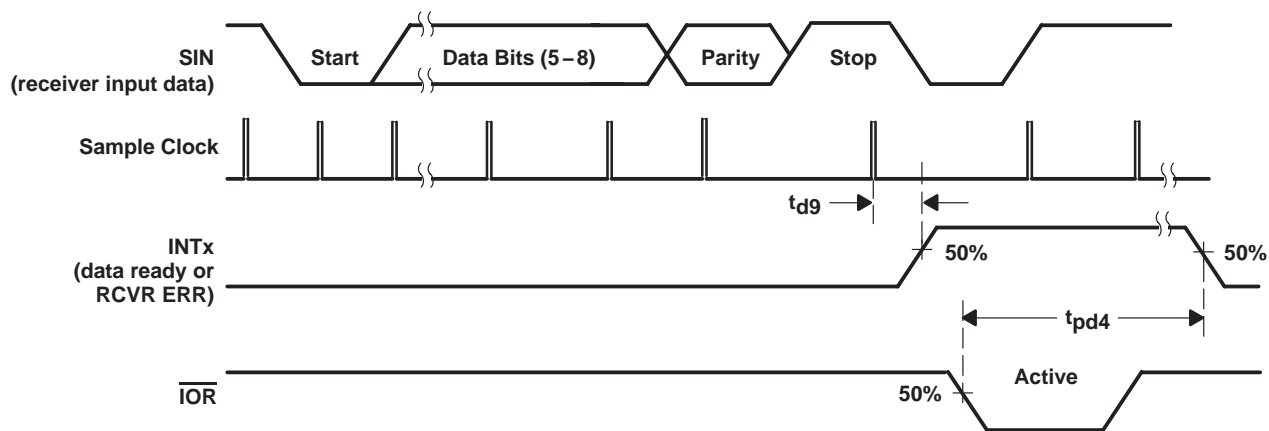

Figure 9. Receiver Timing Waveforms
**receiver switching characteristics over recommended ranges of operating free-air temperature and supply voltage (see Figures 9 through 13)**